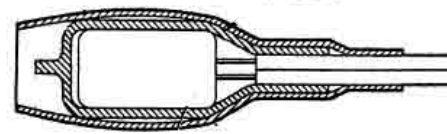
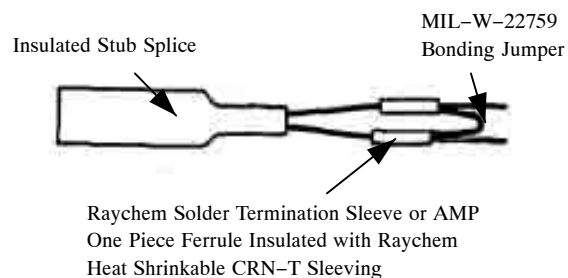

Figure 19. Shrinkable End Caps and Sleeve Installation
Figure 20. Shielded Stub Splice
f. The preferred method for insulating the stub splice is as follows (Figure 19):
- (1) Select proper size self-sealing end cap (Table 6).
- (2) Position end cap on stub splice and shrink.
g. Iternative method for insulating the stub splice is as follows (Figure 20).
- (1) Select proper size CRN end cap (Tables 4 and 5).
- (2) Position end cap on stub splice and heat shrink.
- (3) Select shrinkable sleeving or CRN-T sleeving (Tables 4 and 5).
- (4) Cut sleeve approximately 1.2 inches in length.
(5) Position sleeve over end cap and heat shrink.
h. When shielded wires are stub spliced, shields are also terminated and joined (Figure 20).